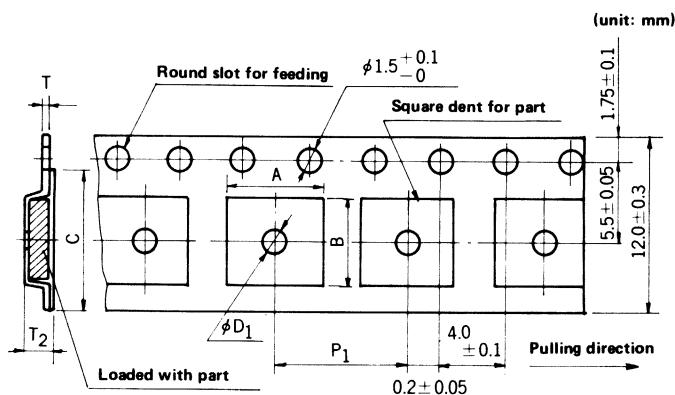

Fig. 5 Embossed taping types TE1204 and 1208
(2) Tape shape and dimensions
a) Types TE1204, 1208 (Fig. 5)